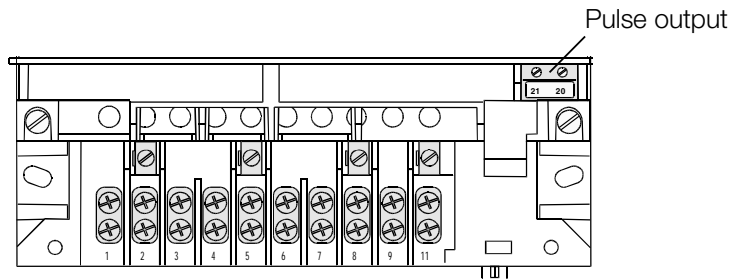

Figure 3. Pulse output relay location and terminal markings
- 5 The pulse output can be connected as a relay, that is, the polarity does not matter (see Figure 3 for relay location). Note that the maximum ratings for this pulse output relay are limited to 120V AC_{RMS} or 200V DC and 100mA.